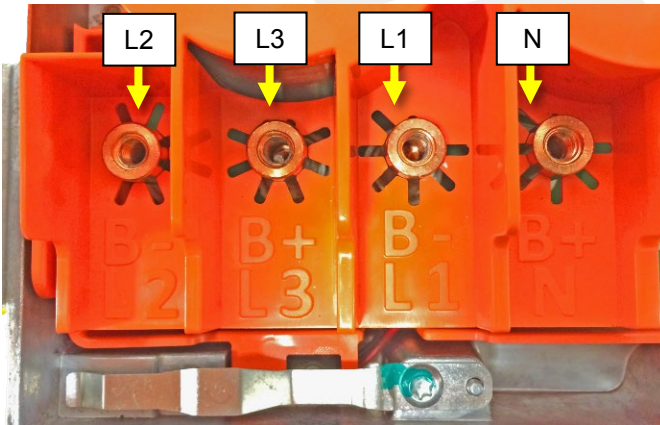

Figure 3
6. Inspect the L1, L2, L3, and N terminal posts on the HVJB (Figure 3) and the HVJB printed circuit board below the orange cover (Figure 4):